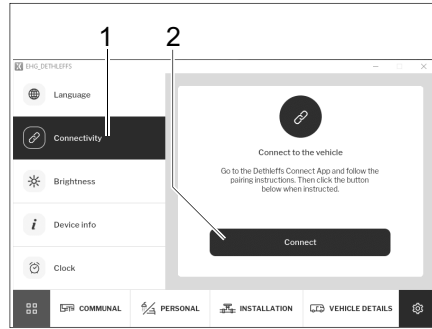

Fig. 287 Connecting via the System Control Display
- Click on the *Connection* (Fig. 287,1) button. A notification will appear to explain how your mobile device can be connected to the vehicle.
- Click on the *Connect* (Fig. 287,1) button. Your vehicle and mobile device are now paired.